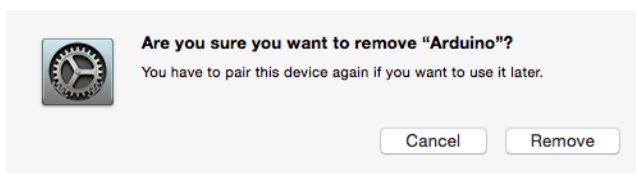

Figure A-11 Confirming that you want to unpair the device
4. Click the Remove button to confirm unpairing (Figure A-11).